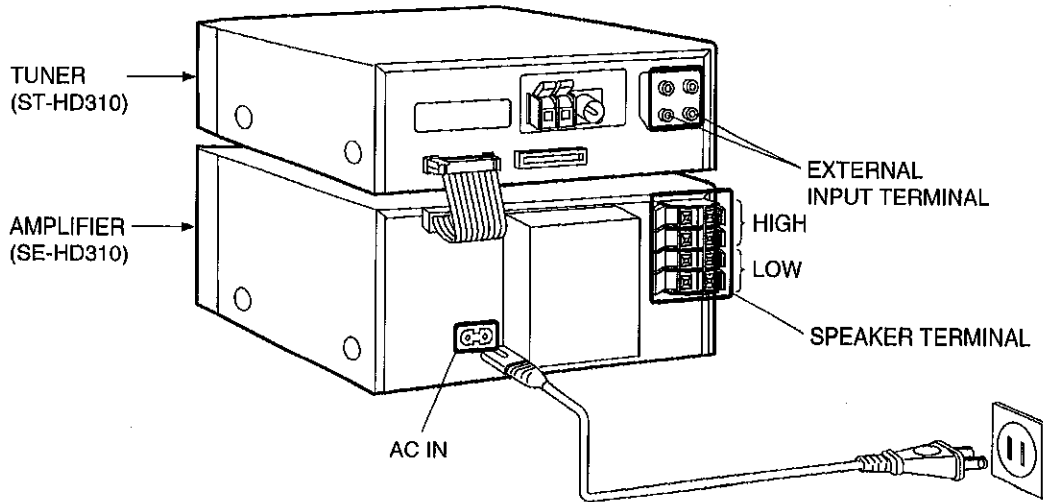

Fig. 1
1. Connect with the Tuner (ST-HD310). (As shown in Fig. 1)
2. Connect the AC mains lead to Amplifier (SE-HD310). (As shown in Fig. 1)
3. Connect the speakers to speaker terminal. (As shown in Fig. 1)